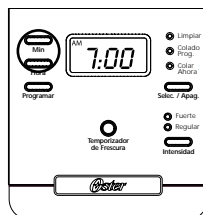
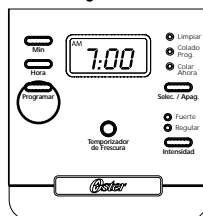

figure 1
figure 3
2. Press and hold the hour “Hora” and minute “Min.” buttons until you reach the current time. The AM or PM indicator will light at the bottom of the display (Figure 1 & 2).
While the display is in the clock mode, simply press the set delay “Programar” button (Figure 3) and, set the brew time by pressing the hour “Hora” and minute “Min” buttons (Figure 1). The AM or PM indicator will light at the bottom of the clock display.